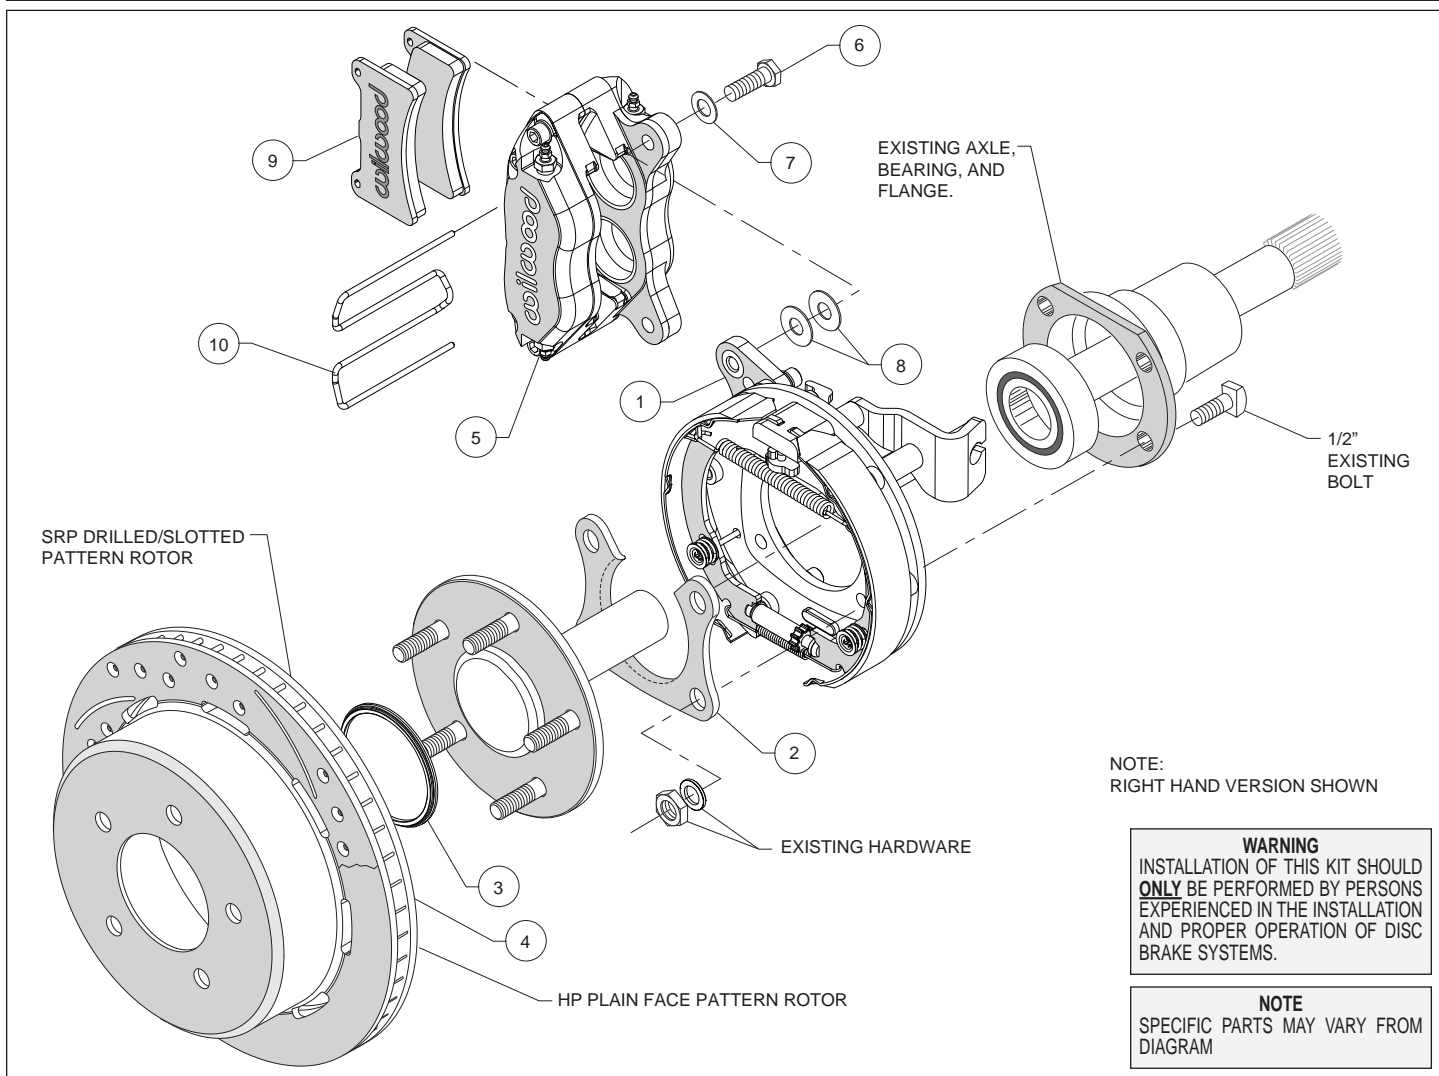
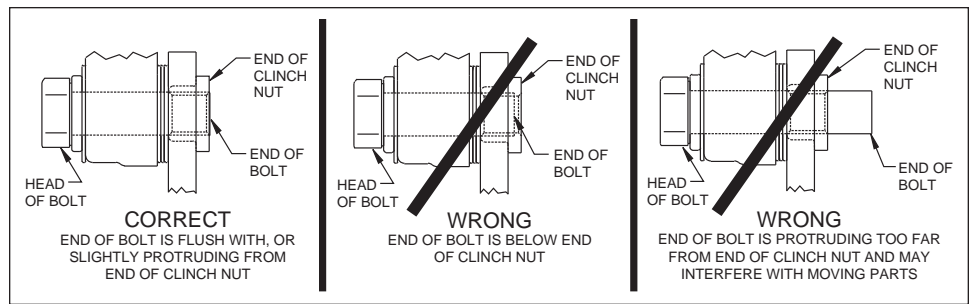

Figure 1. Typical Installation Configuration
Figure 5. Clinch Nut Engagement Diagram
**Assembly Instructions** (numbers in parenthesis refer to the parts list, and Figure 1 on the preceding pages): **CAUTION:** All mounting bolts must fully engage clinch nuts. Be sure to check that all bolts are either flush or protruding through flanged side of clinch nut after shimming, Figure 5.
- Orient the bracket assembly (1) as shown in Figure 1 and Photo 1 and slide it onto the axle. Insert the axle and bracket into the axle housing. Ensure that the bracket assembly backing plate fits flush against the axle housing flange.
- Install the bearing retainer (2) with the opening pointing upward and the lip facing inward (toward the bearing), as shown in Figures 1 and 4, and Photo 2. Secure retainer and bracket assembly to the axle housing flange using the Original Equipment Manufacturer (OEM) bolts, washer, and nuts, Figure 1. Apply red *Loctite*® 271 to the OEM bolt threads and torque to OEM specifications.
•Slide the rotor registration adapter (3) onto the axle register on the axle flange with the smaller O.D. facing toward the rotor/hat (4), Photo 3. Align the hole pattern in the rotor/hat with the stud pattern on the axle flange and slide into place, Figure 1 and Photo 4. **NOTE:** The rotor/hat must fit flush against the axle flange or excessive rotor run out may result. Install three lug nuts (finger tight) to keep the rotor/hat assembly in place while continuing with the installation. **NOTE:** Some OEM and after market axles come with stud sizes larger than 0.50" diameter. Verify stud size and have a qualified machine shop drill the bolt circle of the hat/rotor to the correct stud size, if necessary.
•**NOTE:** Please reference the caution statement at the beginning of the assembly instructions. Mount the caliper (5) onto the caliper mounting bracket (1) using bolts (6) and washers (7), as shown in Figure 1. Initially place two .035" thick shims (8) on each bolt between the caliper and the bracket, Photo 5. Temporarily tighten the mounting bolts and view the rotor (4) through the top opening of the caliper. The rotor should be centered in the caliper, Photo 6. If not, adjust by adding or subtracting shims between the bracket and the caliper. Always use the same amount of shims on each of the two mounting bolts. **NOTE:** The end of each bolt must be flush with or slightly protruding from the head of the clinch nut, as shown in Figure 5. If necessary place spare shims between washer (7) and caliper mounting ear to achieve the proper clinch nut engagement. Once the caliper alignment and clinch nut engagement are correct, remove the bolts one at a time, apply red *Loctite*® 271 to bolt threads, and torque to 40 ft-lb.